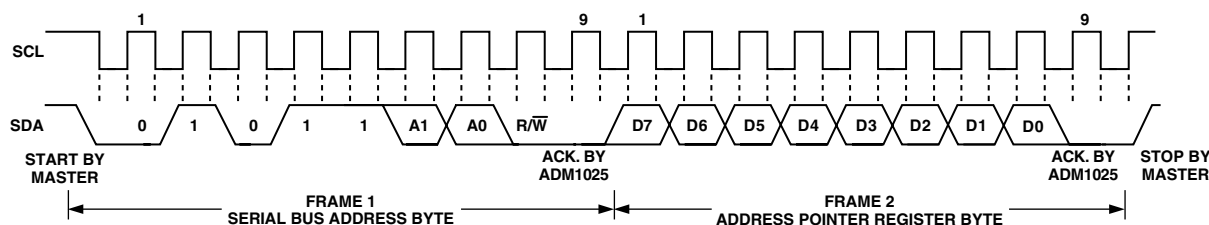

Figure 9b. Writing to the Address Pointer Register Only
1. If the ADM1025/ADM1025A's Address Pointer Register value is unknown or not the desired value, it is first necessary to set it to the correct value before data can be read from the desired data register. This is done by performing a write to the ADM1025/ADM1025A as before, but only the data byte containing the register address is sent, as data is not to be written to the register. This is shown in Figure 9b.
2. If the Address Pointer Register is known to be already at the desired address, data can be read from the corresponding data register without first writing to the Address Pointer Register, so Figure 9b can be omitted.